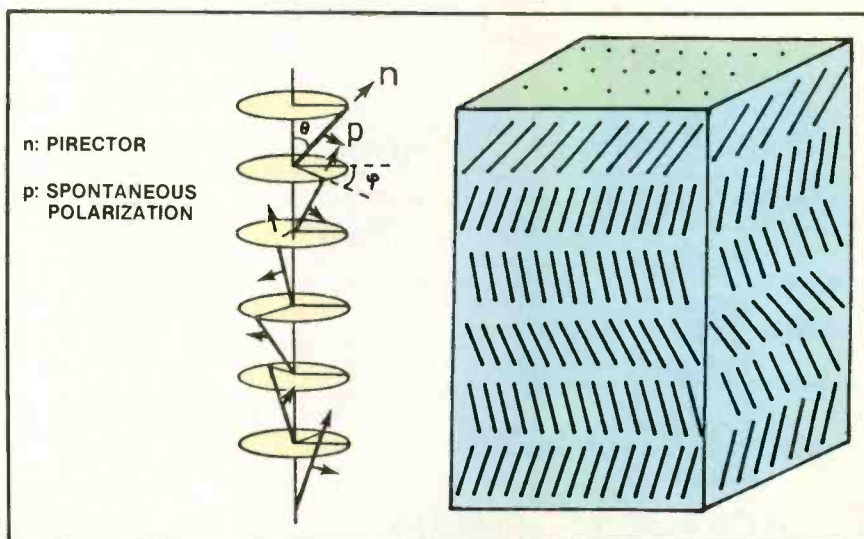

Figure 7. Smectic C liquid crystals have the potential of being ferroelectric and therefore suitable for LCDs.
nematic (N), smectic A and smectic C. Neither nematic or smectic A are ever ferroelectric. Smectic C, however (Figure 7), has the potential of being ferroelectric and suitable for LCDs.